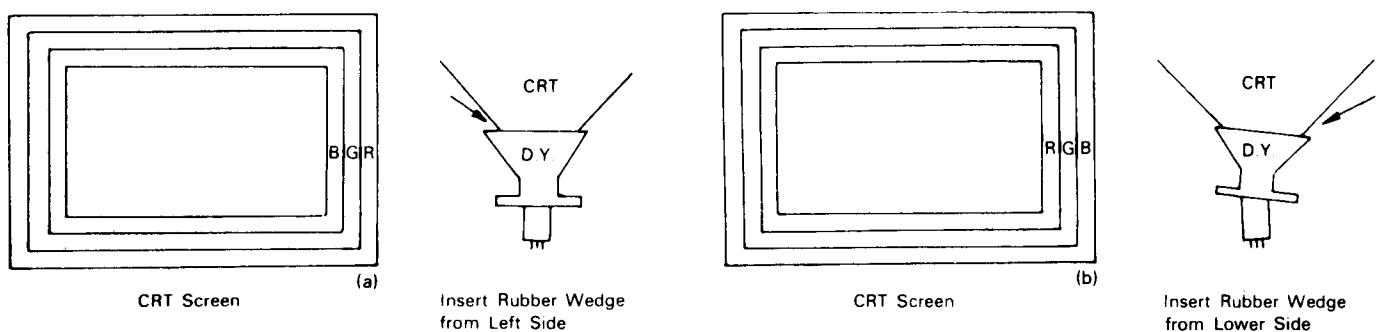

FIGURE 11
- 2) Tilting the angle of the yoke sideways adjusts the parallel convergence of both horizontal and vertical lines at the edges of the screen. See Fig. 11-a and b.